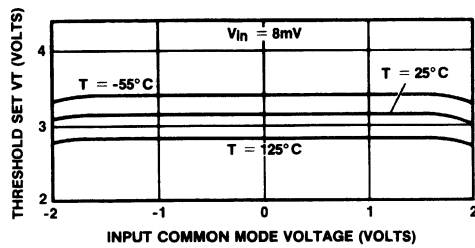
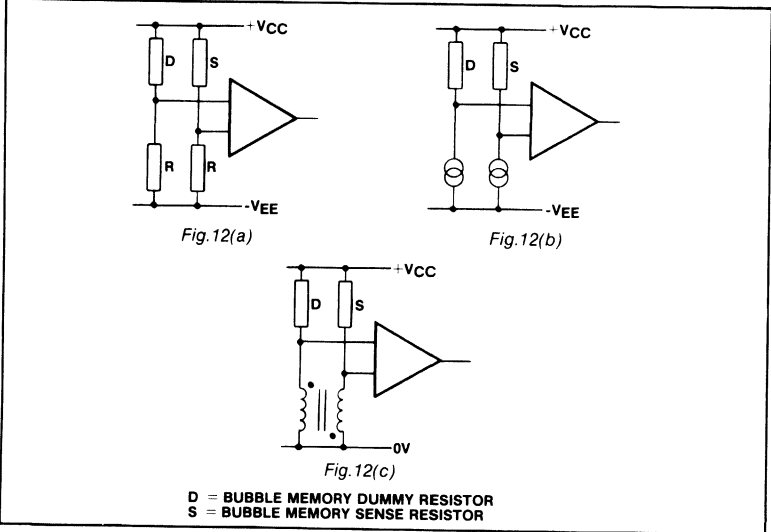

Fig.11 Threshold set vs common mode voltage
Fig. 12 Input stage configurations
- The device will detect a small pulse at the input in the presence of a DC differential offset applied at the input (see Fig.12)
The high impedance differential inputs add to the flexibility of the device, allowing a variety of input connections schemes to be used. DC offsets of up to 100mV can be tolerated at the input by virtue of the internal AC coupling, but the inputs should be maintained within the ±2 volts common mode range (see Fig.11). This enables the resistor bridge network, shown in Fig.12(a), to be used for low cost solutions. Larger DC offsets will require the inputs to be AC coupled, in which case external bias must be provided. The high input impedance will not unduly load the circuit to which it is connected.
The flexibility of the design of the input stage also allows the use of current sources or baluns as a bridge network (see Figs.12(b) and 12(c)).